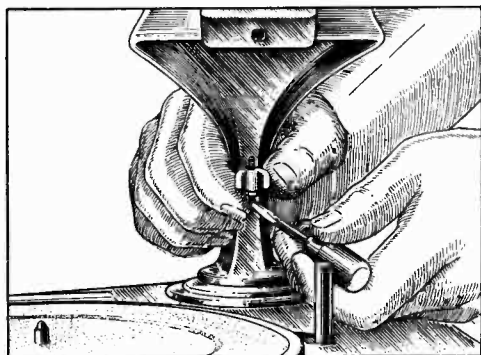

Figure 2—Adjusting height of tone arm
5. Place a Home Recording needle into the pickup as far as it will go. Then lower the pickup on the side of the turntable. The needle should extend from  $\frac{1}{32}$ " to  $\frac{1}{16}$ " below the top of the metal edge of the turntable. If it does not, an adjustment can be made by means of a screw located under the tone arm. Lifting the arm provides accessibility to the screw. See Figure 2.